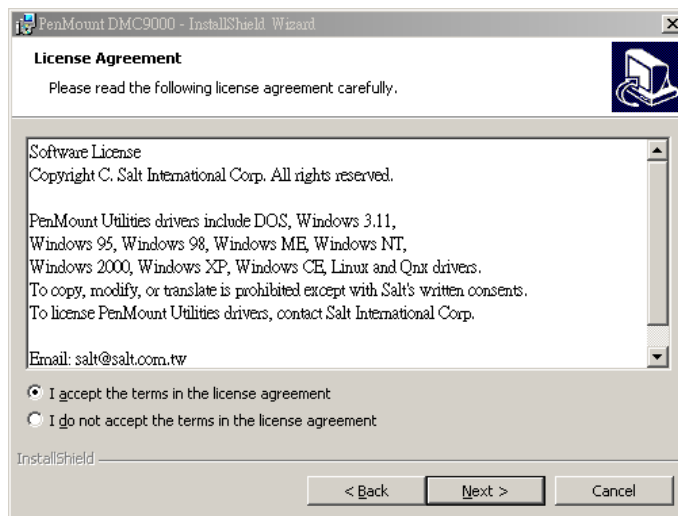

Figure 6-25: License Agreement
Step 3: The license agreement shown in Figure 6-25 appears. Agree to the license by selecting “I accept the terms in the license agreement”.